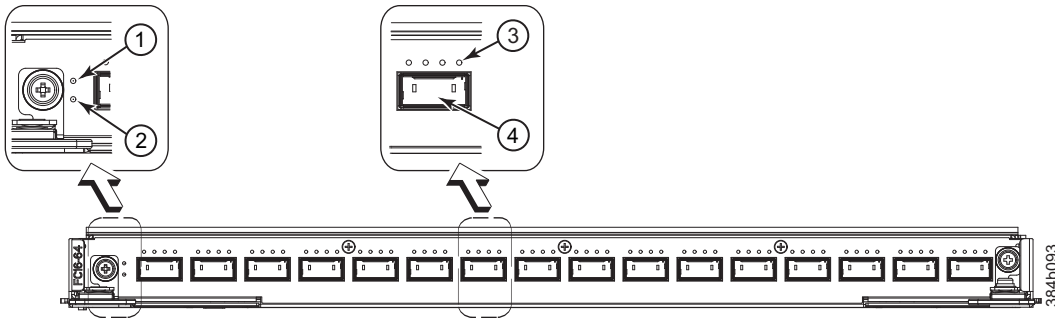

Figure 23. FC16-64 port blade
- Figure 23 on page 60 illustrates the FC16-64 port blade